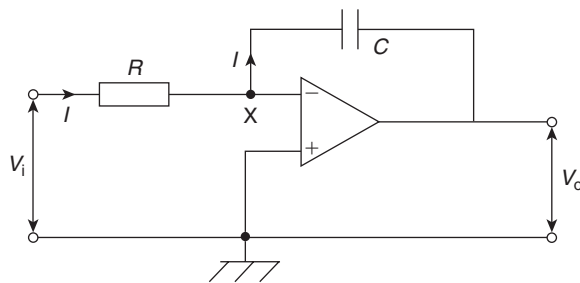

Figure 19.15
The circuit for the op amp integrator shown in Fig. 19.15 is the same as for the op amp inverting amplifier shown in Fig. 19.5, but feedback occurs via a capacitor  $C$  rather than via a resistor.
Since the inverting ( $-$ ) input is used in Fig. 19.15,  $V_o$  is negative if  $V_i$  is positive, and vice versa, hence the negative sign in equation (9).
Since X is a virtual earth in Fig. 19.15, i.e. at 0 V, the voltage across  $R$  is  $V_i$  and that across  $C$  is  $V_o$ . Assuming again that none of the input current  $I$  enters the op amp inverting ( $-$ ) input, then all of current  $I$  flows through  $C$  and charges it up. If  $V_i$  is constant,  $I$  will be a constant value given by  $I = V_i/R$ . Capacitor  $C$  therefore charges at a constant rate and the potential of the output side of  $C$  ( $= V_o$ , since its input side is zero) charges so that the feedback path absorbs  $I$ . If  $Q$  is the charge on  $C$  at time  $t$  and the p.d. across it (i.e. the output voltage) changes from 0 to  $V_o$  in that time then: